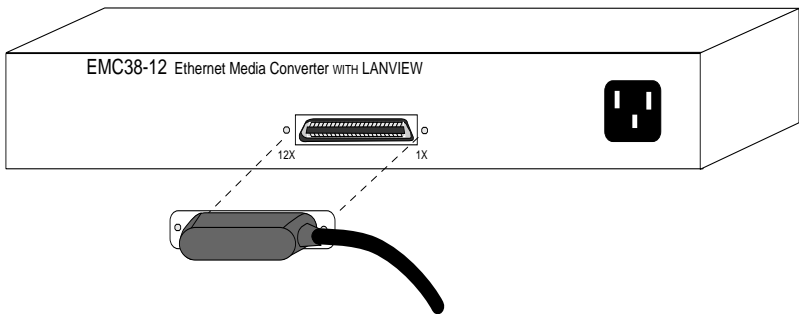

Figure 3-1. EMC38-12
1. Attach a 50-pin feeder cable to the Champ connector on the EMC38-12 as shown in Figure 3-1.